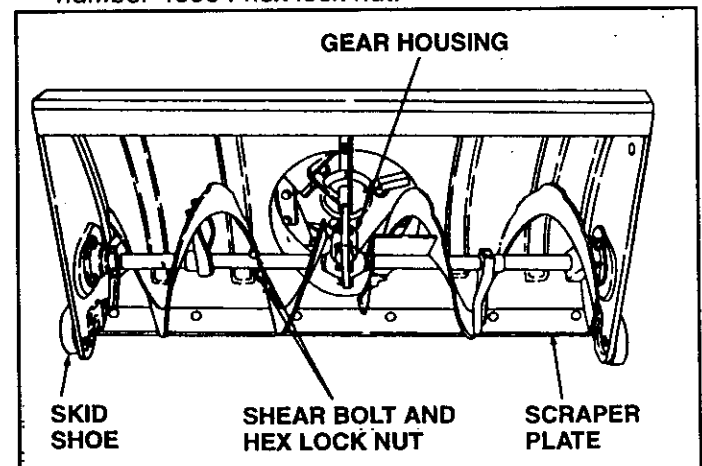

FIGURE 29
- If the augers will not turn, check to see if the shear bolts have sheared. See figure 29. Two replacement shear bolts and hex lock nuts have been provided with the snow thrower. For future use order part number 710-0890A shear bolt and number 43064 hex lock nut.